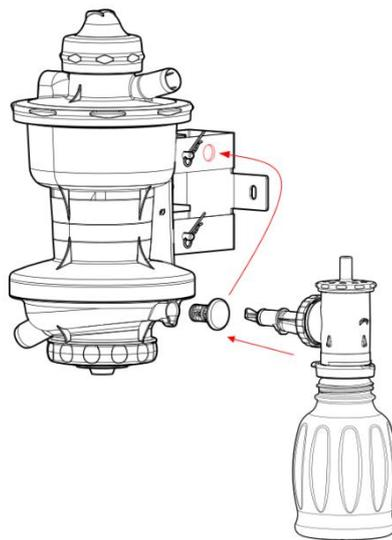

Fig. 1
- Remove the plug from the MODULAR and place it on the bracket in order not to lose it (Fig. 1).